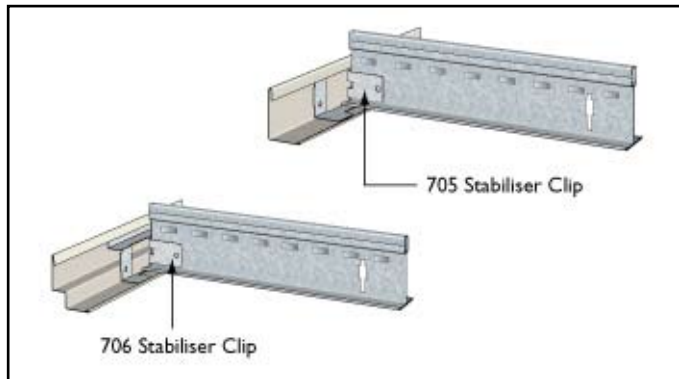
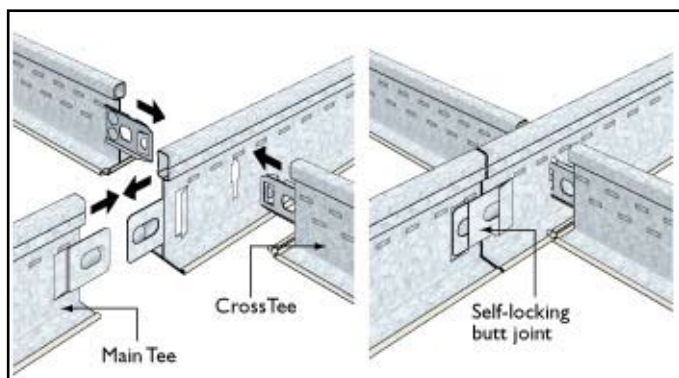

FIGURE 3: Stabiliser Clips
FIGURE 5: Main and Cross Tee Jointing Cross
7. Ensure the integrated self locking joiners on Main Tees are properly locked together. Where Main Tees abut the wall trim, secure with the relevant stabiliser clip as per Figure 3.
8. Fix Cross Tees into position through the slots in the Main Tee with a gentle push. The opposing cross tees positively lock together as per Figure 5. The slots in the Main Tee are spaced 100mm apart to ensure the correct space is maintained between the Cross Tees (600mm apart for a 1200 x 600 panel). Cross Tees abutting the wall trim should be secured with the relevant clip, as per Figure 3, at not more than 1800mm centres unless otherwise specified.